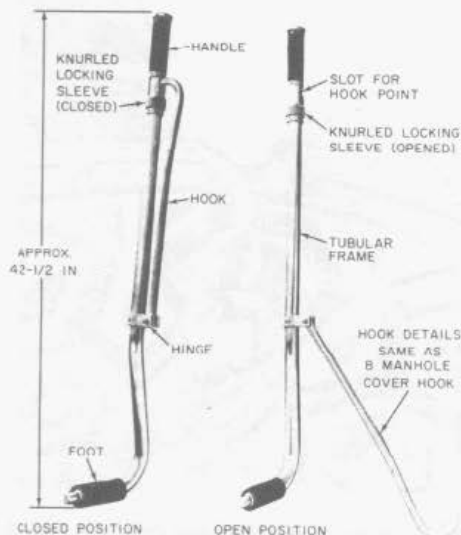

Fig. 8—PTS-49 Manhole Cover Lifter
4.04 PTS-49 Manhole Cover Lifter: The PTS-49 manhole cover lifter is shown in Fig. 8. The open end of the hook can be locked in a safe, covered position for storage.†